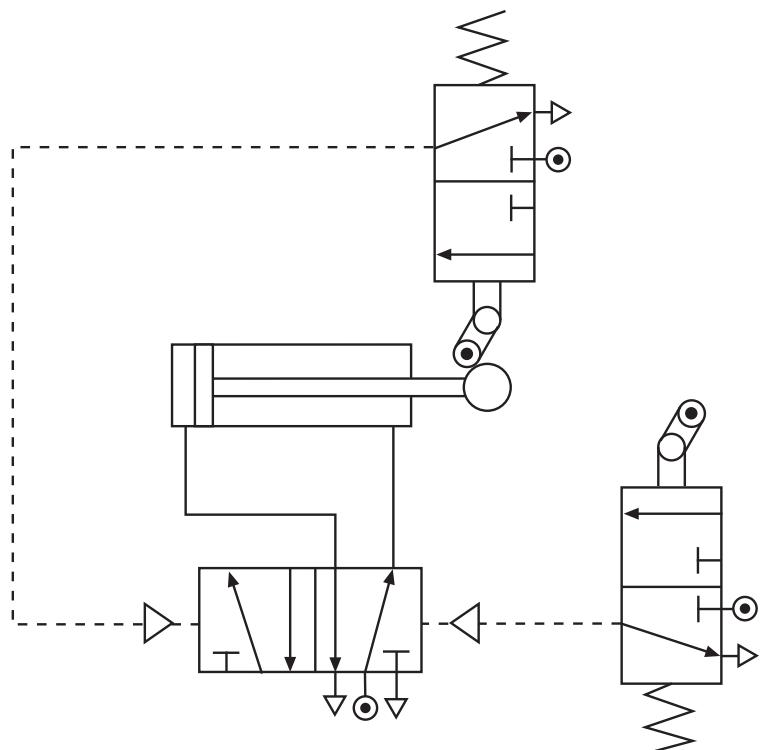

Figure Q4
4. A design for a pneumatic circuit to produce reciprocating motion is shown in Figure Q4.
- (ii) Indicate on Figure Q4 with a cross (**X**) where this valve should be added to allow the circuit to be stopped with the piston **instroked**.